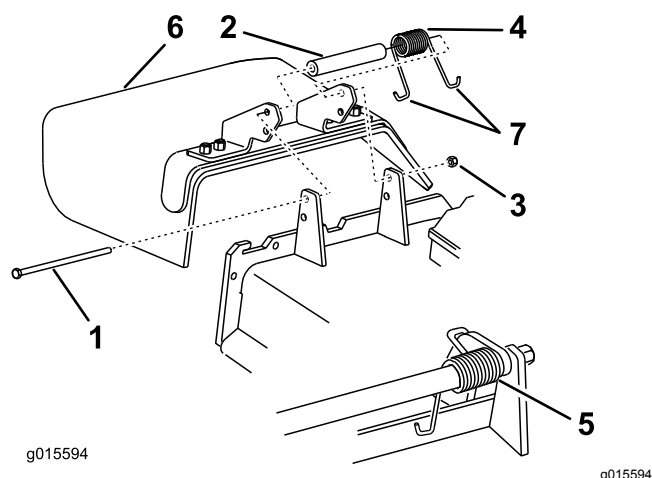

Figure 107
- Remove the locknut, bolt, spring, and spacer holding the deflector to the pivot brackets (Figure 107).
Note: Ensure that a J-end of spring is installed behind deck edge before installing the bolt as shown in Figure 107.
- Place a J-hook end of spring around grass deflector (Figure 107).